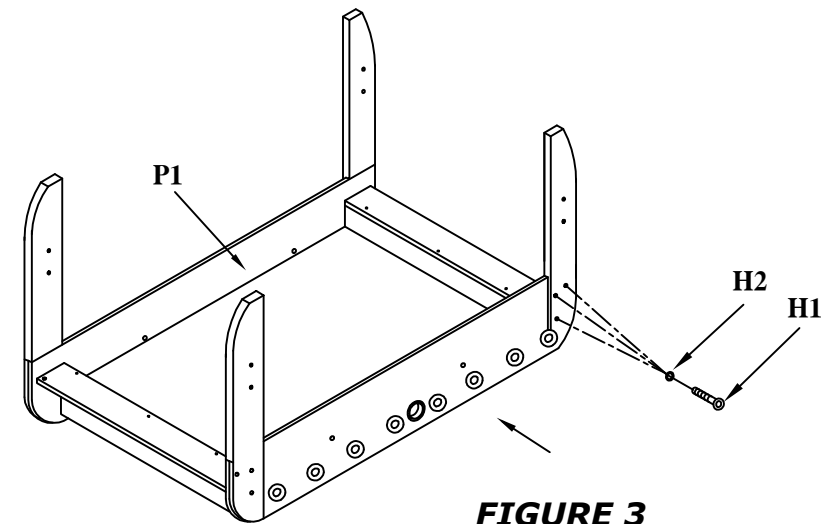

FIGURE 3
- 2 INSERT THE NUT **H9** INTO THE HOLE OF THE END PANELS **P2A** AND **P2B**, THE HOLE OF THE NUT ALIGN THE HOLE OF THE PANLE. ATTACH THE TWO END PANELS WITH SCREW **H6**. SEE **FIGURE 2**. ATTACH THE TWO END PANELS AND FOUR LEGS TO THE SIDE PANELS **P1** WITH **H1&H2**. SEE **FIGURE 3**.